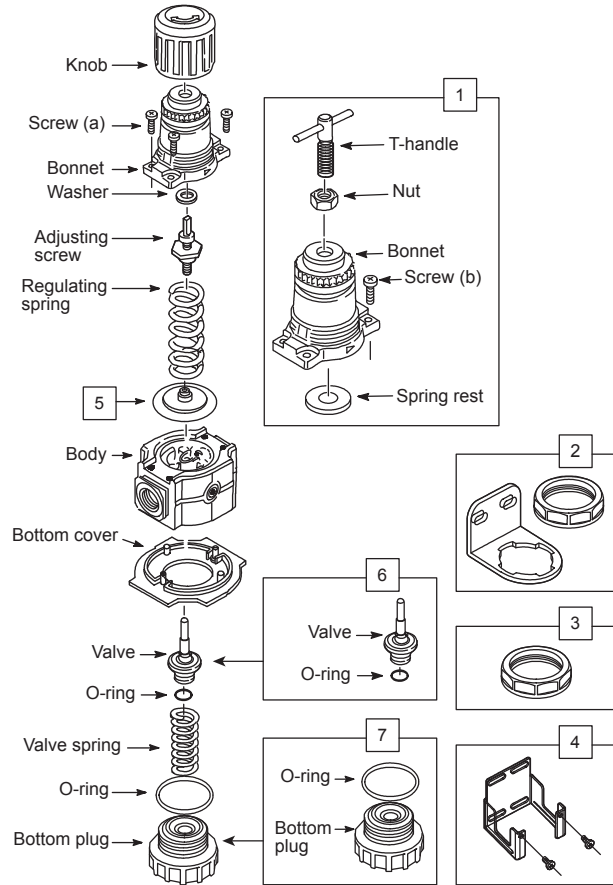

figure 2
OPERATING INSTRUCTIONS (See Figure 2)
- 1 **Disassembly (See Figure 2)**
- Disassemble in general accordance with the parts illustrated in Figure 2.
- 2 **Cleaning(See Figure 2)**
- 3 **Assembly (See Figure 2)**
- Assemble the unit as shown on Figure 2.